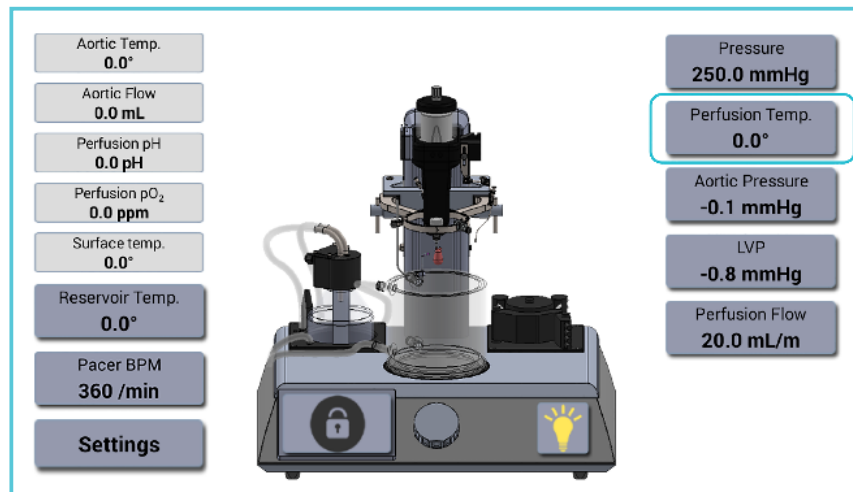

Fig. 20.: The Perfusion Temp. menu.
- Turn on the heating unit of the perfusion buffer in the Perfusion Temp. menu shown in the Main menu on the right side (fig.20.).